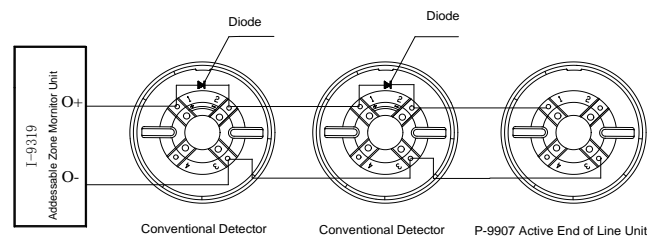

Fig. 4
1. When the unit connects with conventional detector in series, the detector base should connect with an 1N5819 diode, and P-9907 must be connected to the output end. P-9907 can also be used as the base of a conventional detector. System connection is shown in Fig. 4.